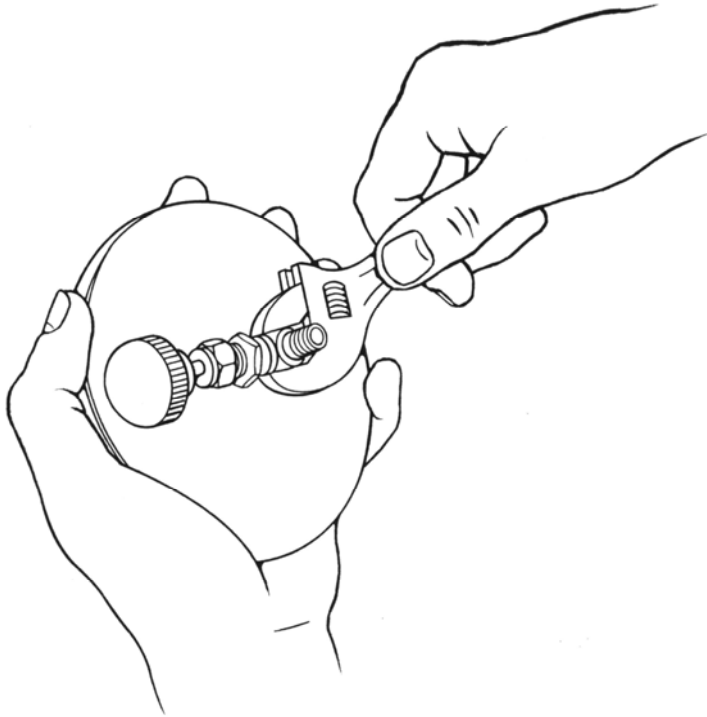

Figure 8 • Removing the Standard Needle Valve
- Using a 9/16" end wrench or an adjustable wrench, unscrew the regular needle valve(Figure 8).